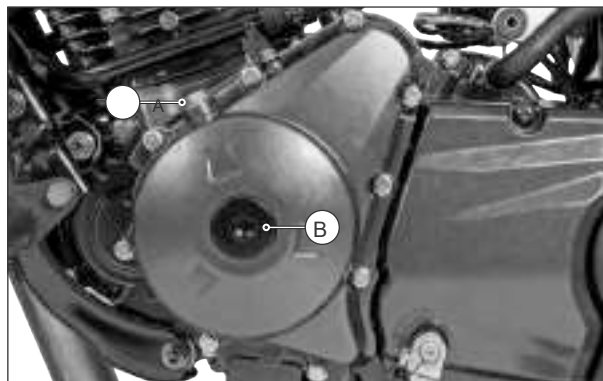

Fig. 2.50
- Remove plug TDC (A) along with the gasket. (Fig. 2.50)
- Remove plug crankshaft hole (B). (Fig. 2.50)